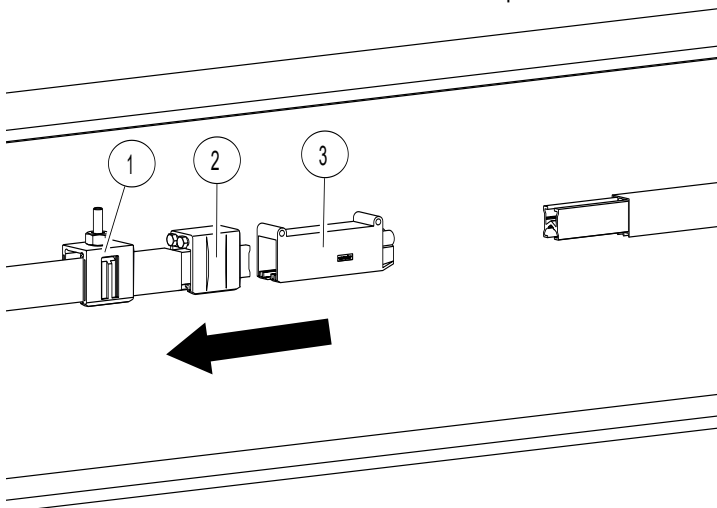

Fig. 91: Slide the hanger clamp, anchor clamp and end cap onto the end of the rail
- Slide the hanger clamp (Pos. 1), anchor clamp (Pos. 2) and end cap onto the end of the rail (see Fig. 91). Do not yet tighten the screws on the side of the anchor clamp.